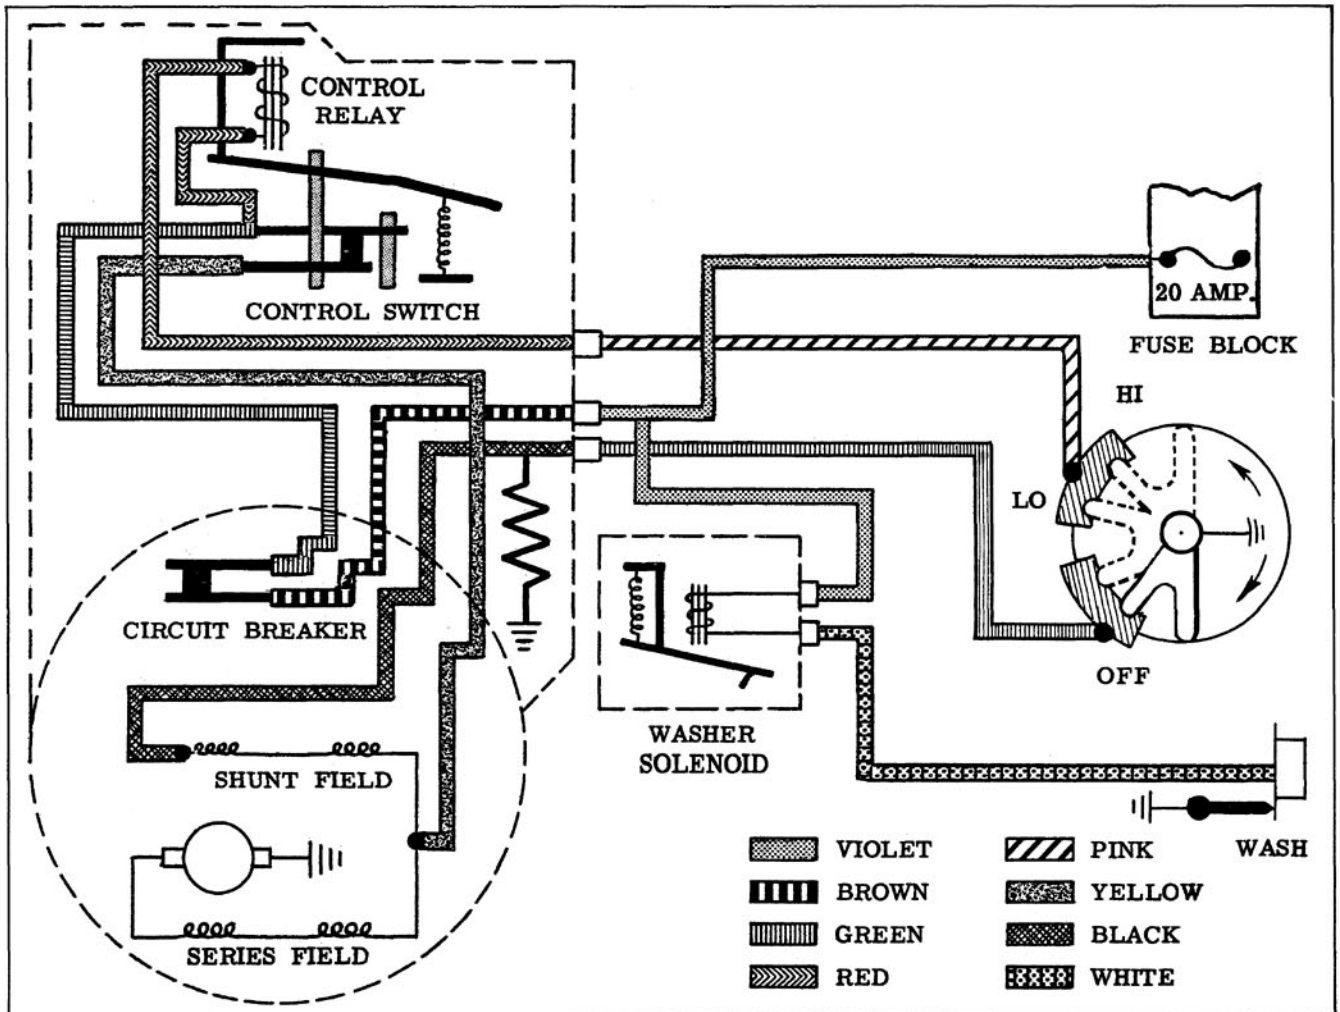

Fig. 13-146 Wiring Diagram
b. With the wires connected as in Step a, check the low speed operation by connecting another jumper wire from the shunt field terminal (light green) of the wiper terminal board to ground. (Fig. 13-146)